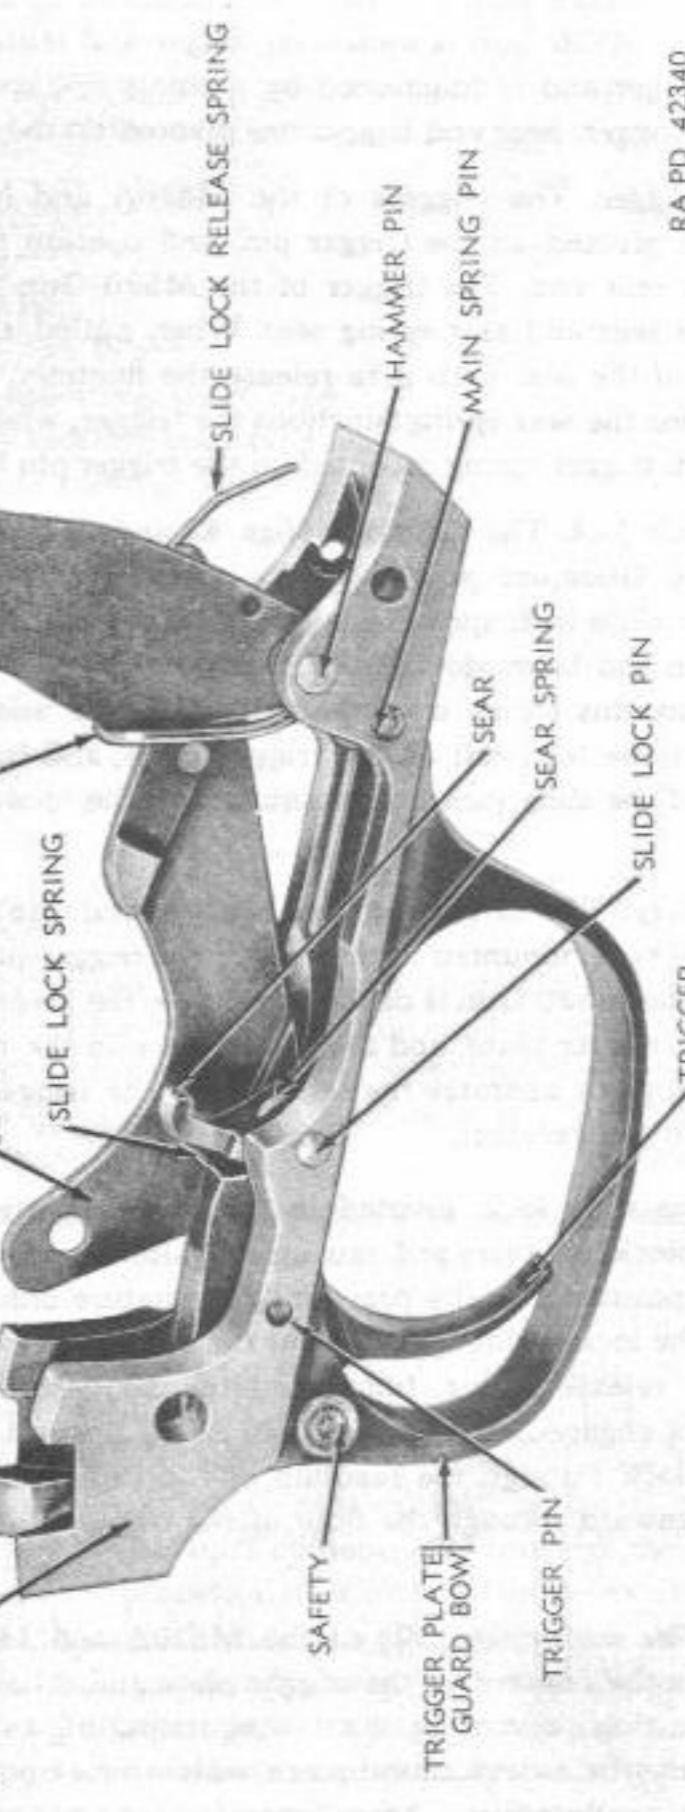

Figure 39—Trigger Plate Group—Right Side View—Showing Location of Parts—Stevens Shotgun M620A
(8) The trigger plate group (fig. 39) contains the hammer, trigger, sear, slide lock, and safety, together with their springs and component parts.
NOTE: The trigger plates of the M520 and M620 Guns have an integral tang extending to the rear, while in the M620A Gun, the tang is floating as already described, and mates with both receiver and trigger plate when assembled. The principal differences in the trigger plate groups of the M620A (fig. 39), M520 and M620 Guns are as follows:
(h) The safety (fig. 39) of the M620A and M620 Guns operates laterally in the rear end of the trigger plate guard bow to block and free the trigger, thus preventing or allowing its pulling to fire the gun. In the M520 Gun, the safety thumbpiece which acts upon the safety lever, positioned as described above, operates longitudinally to accomplish the same results.